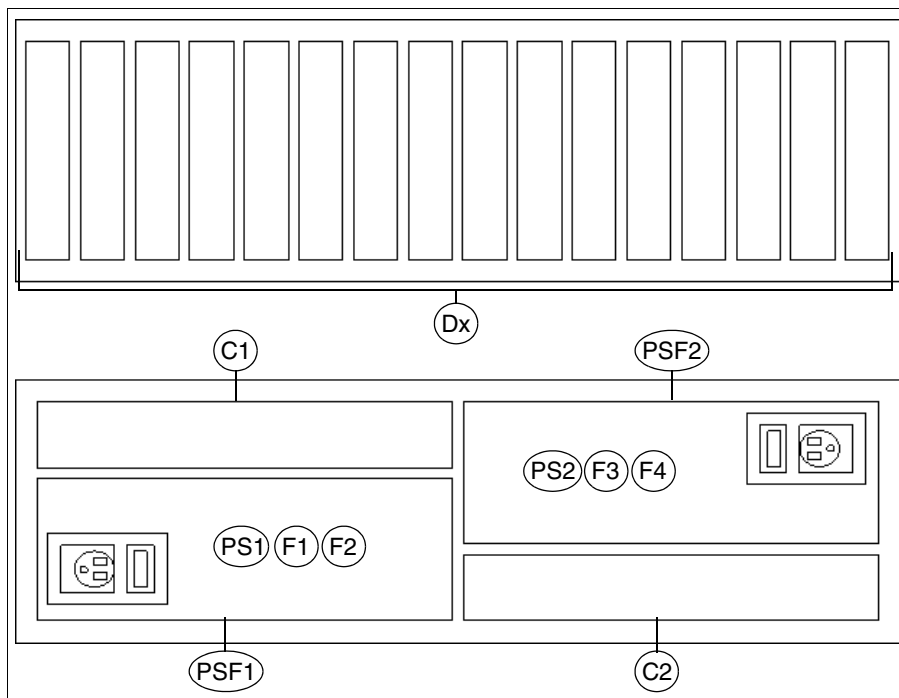

Figure 2-63 EXP5000 and EXP520 component locations
This section will show all EXP5000 and EXP520 storage expansion enclosure component locations as displayed in Storage Manager (SM) software. Figure 2-63 shows all EXP5000 and EXP520 storage expansion enclosure component locations and Table 2-11 describes how they relate to locations shown in Storage Manager software.